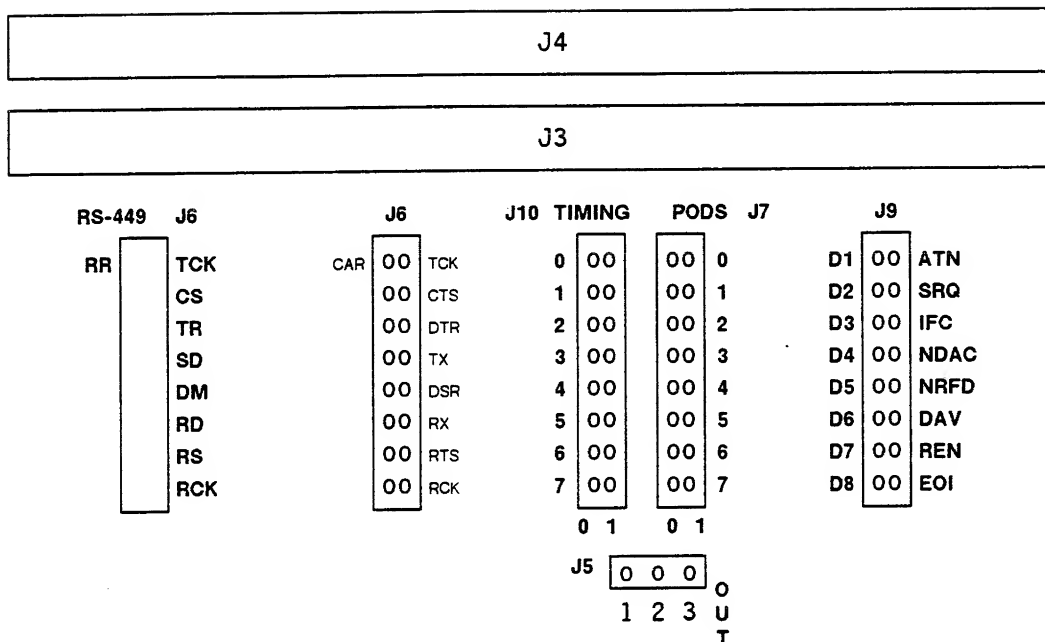

Figure 6-1. Timing Connector Locations
1. On the HP 10342B, connect the ribbon jumper cable to the appropriate pins. All 16 possible timing channels are connected when the jumper cable is connected from J6 to J10. Only nine channels are used with RS-449 processing (see figure 6-1).
2. If you want to connect any data or control lines to the front-panel outputs, use the single jumper wires to connect pins of J7 to pins of J5 (see figure 6-1). When you're using the mass-connect jumper cable, the signals at J7 correspond to the mnemonics at J6.